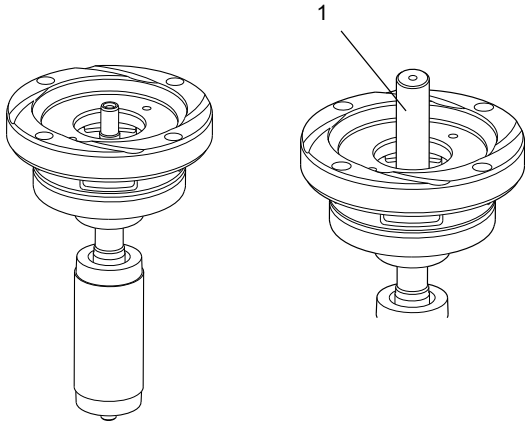

Fig. 13 Fitting the oil chamber on the rotor/shaft
- Fit the oil chamber (155) with bearing (153) on the rotor/shaft (172). Fit the punch (F) on the inner ring and tighten gently. See fig. 13.